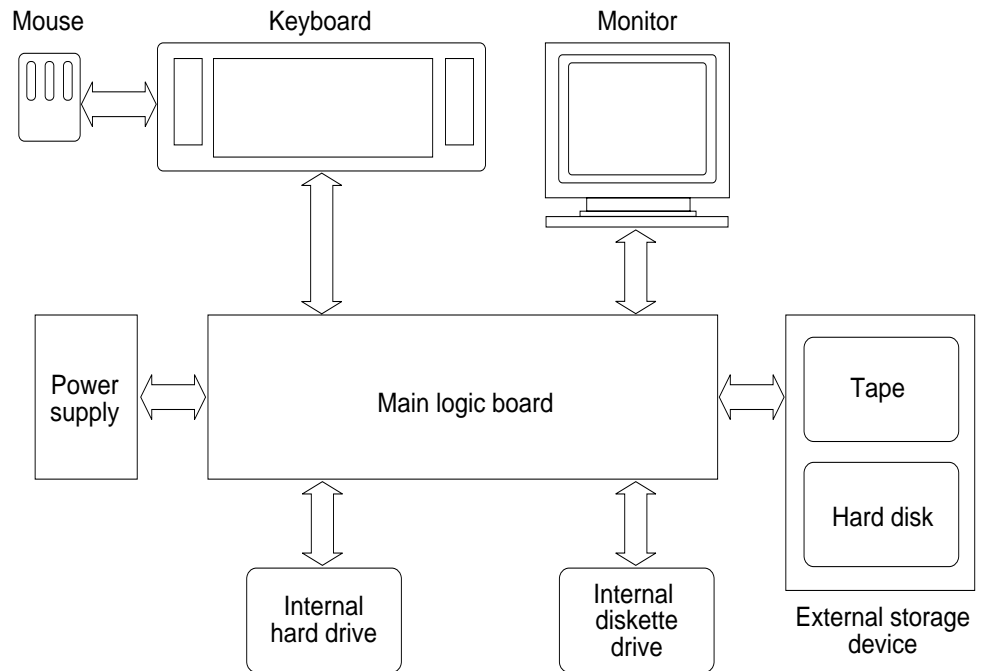
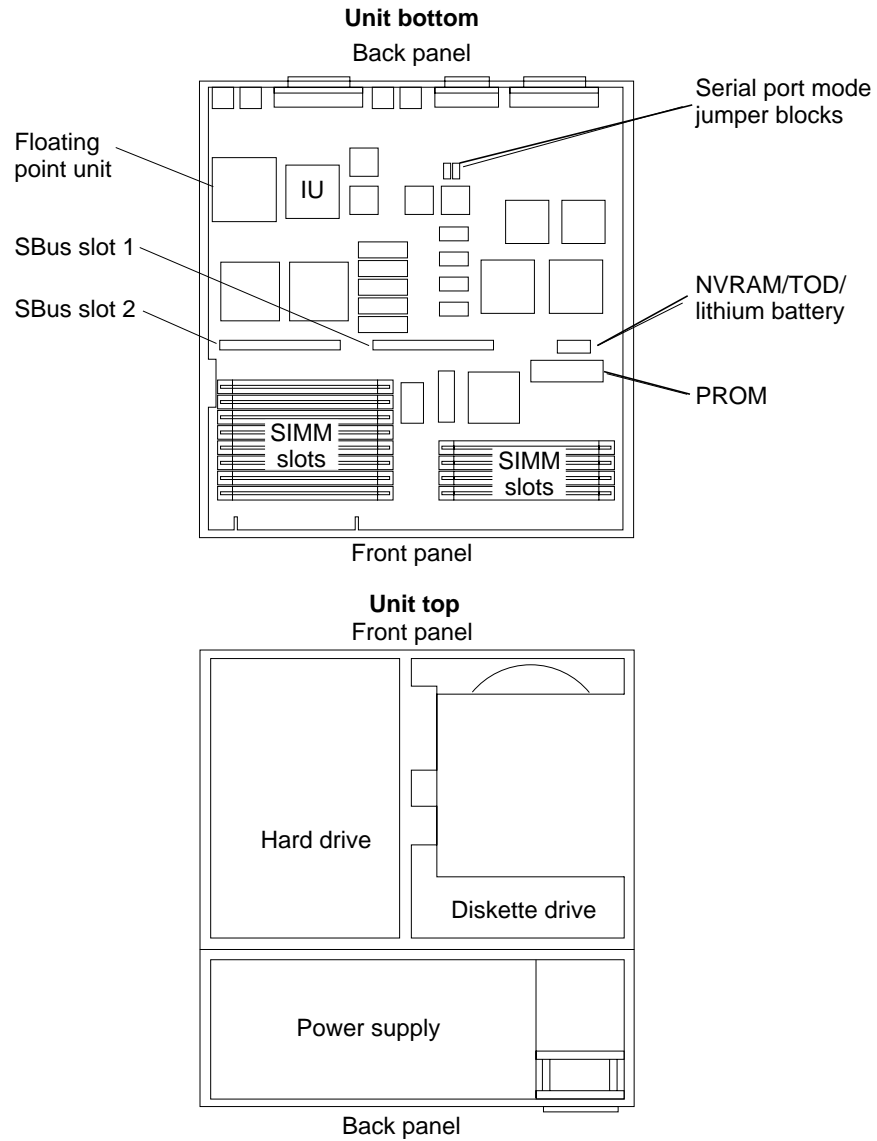
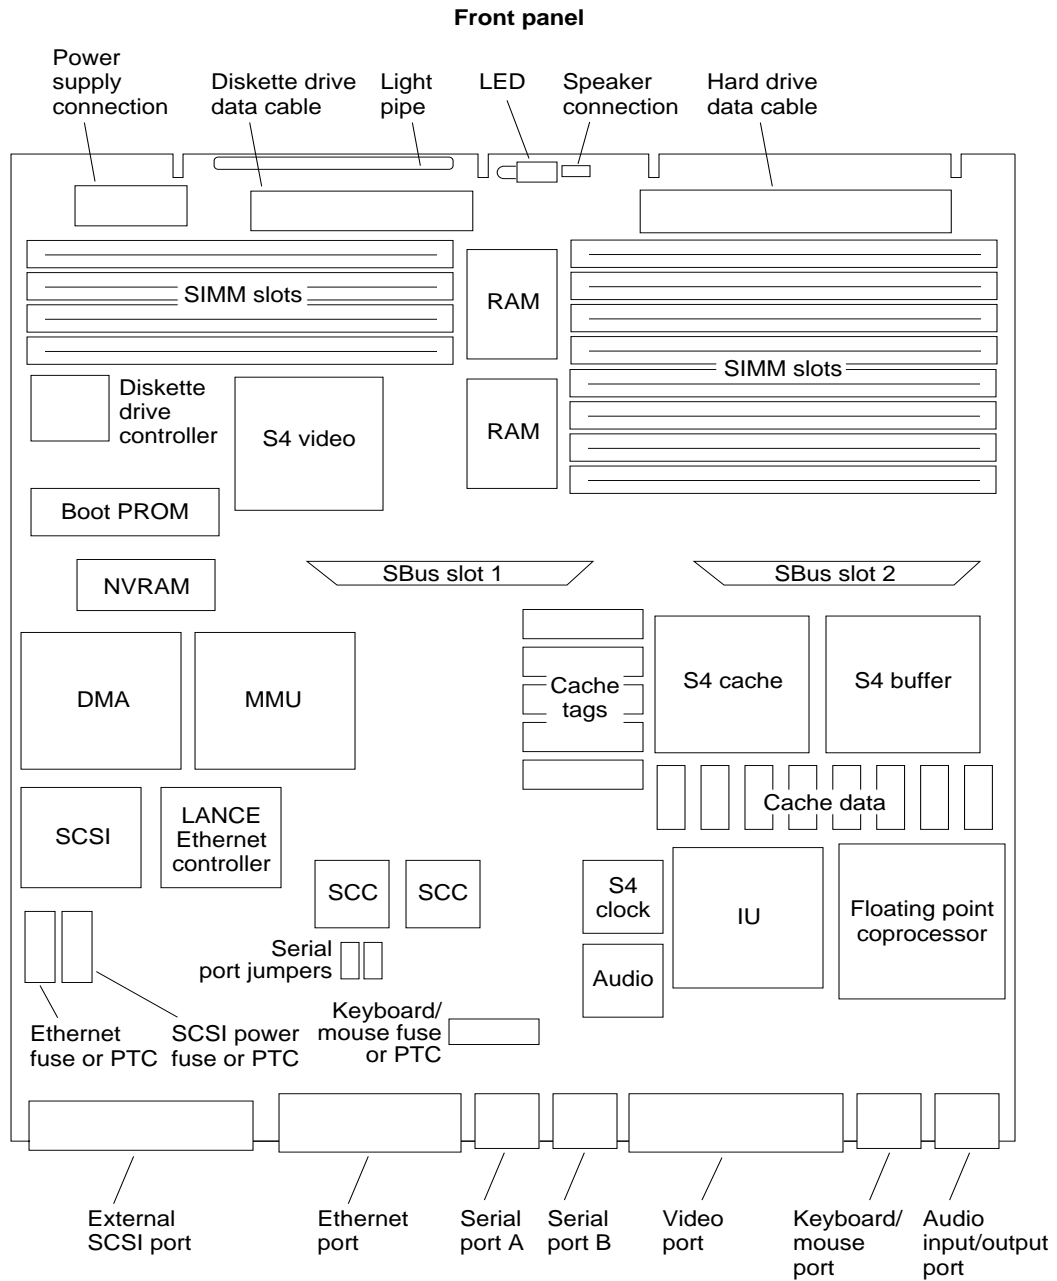
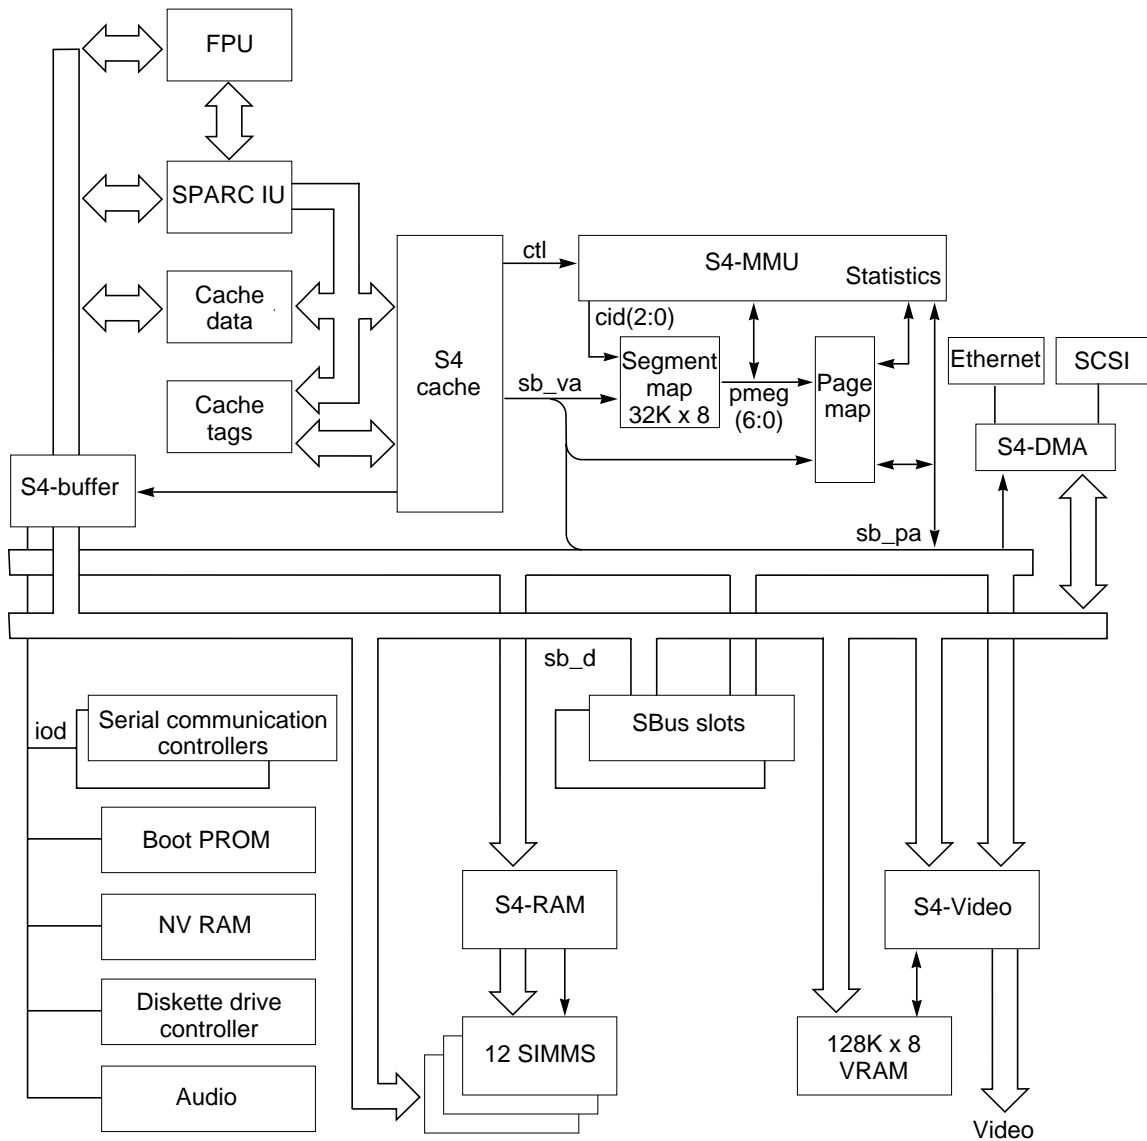

Figure 1-1 SPARCstation IPC With External Storage Device Block Diagram
Figure 1-2 Open View of the System
Figure 1-3 The Workstation's Main Logic Board
Figure 1-4 A Block Level Diagram of the Main Logic Board
Figure 1-1 illustrates the system's configuration with an external storage device. Figure 1-2 presents an open view of the system. Figures 1-3 and 1-4 present the main logic board's layout and a block-level diagram of the main logic board. The balance of the chapter describes the system's components.
Figure 1-1 is a block diagram of one of the workstation's configurations.
Figure 1-3, on the next page, illustrates the main logic board's layout. All chips discussed in "Main Logic Board," which follows, are illustrated in this figure.
The basic core of the main logic board is the SPARC Instruction Unit (IU) (see Figures 1-2, 1-3, and 1-4). The IU's clock speed is 25 MHz. Integer operation is approximately 15 Dhrystone MIPs. The IU is supported with the S4 chip set, including the S4 cache, the S4 memory management unit, the S4 buffer, and the S4 clock.
The floating-point coprocessor (see Figures 1-2, 1-3, and 1-4) delivers approximately 1.75 Mflops double precision Linpack performance.
Cache memory (see Figures 1-3 and 1-4) is high-speed local memory for the IU. The chips comprising cache memory include the following:
The boot PROM (see Figures 1-3 and 1-4) is connected to the I/O data bus. The boot PROM is 128Kx8 for systems with Open Boot PROM Version 1.x or 256Kx8 for systems with Open Boot PROM Version 2.x and contains the boot code and the Forth Toolkit, signified by the `ok` prompt. The Forth Toolkit does not look like other Sun Monitor programs and does not behave like the older Sun PROMs.
The NVRAM chip (see Figures 1-3 and 1-4) contains the time-of-day clock and the non-volatile RAM. The NVRAM chip is connected to the I/O data bus.
Serial ports A and B reside on the main logic board (see Figure 1-3). These serial ports are RS-423 ports, configurable to RS-232, and can connect peripheral equipment such as terminals, printers, and modems by an adapter cable with an 8-pin DIN connector. The serial communications controller chips (Figure 1-4) help to implement the serial ports A and B interface.
A keyboard and mouse port supplied with an 8-pin DIN connector, on the back of the main logic board to the right of the Video port (see Figure 1-3), controls the keyboard and mouse. The serial communications controller chips (Figure 1-4) help to implement the keyboard and mouse interface.
The internal diskette drive is connected to the I/O data bus by the diskette drive controller chip (see Figures 1-3 and 1-4).
The system speaker is connected to the I/O data bus by the audio chip (see Figures 1-3 and 1-4). There is an audio port on the unit back panel. With a split adapter cable (ISDN connector) for microphone and headphone, you can plug the following devices into the audio input/output port:
The S4 memory management unit (MMU) chip, (see Figures 1-3 and 1-4) is connected to the system bus. The MMU maps the virtual addresses used by user programs, SunOS, and input/output devices to physical memory addresses. This is how virtual memory is implemented. Virtual memory allows a user program to have access to an address space that is larger than the physical memory present on the system.
Ethernet is controlled by a Local Area Network Controller for Ethernet (LANCE) controller chip (see Figures 1-3 and 1-4). SCSI disk drive operations are handled through the SCSI controller chip. Both the Ethernet controller and the SCSI controller interface to the SBus through the S4 DMA chip.
- Two S4 RAM chips, illustrated in Figures 1-3 and 1-4
There are two SBus slots on the main logic board (see Figures 1-2 and 1-3). These SBus slots accommodate SBus cards such as a color frame buffer card or a second Ethernet card. The SBus slots are connected to the SBus data bus and the SBus address bus. The SBus is a proprietary 32-bit synchronous bus. See “SBus Cards” later in this chapter for more information on specific SBus boards. “SBus Cards” in Chapter 4 explains how to remove and replace SBus cards.
Ethernet is controlled by a Local Area Network Controller for Ethernet (LANCE) controller chip (see Figures 1-3 and 1-4).
The SCSI hard disk drives and 150 megabyte and 8 mm tape drives are controlled by the SCSI controller chip (see Figures 1-3 and 1-4).
The diskette drive is controlled by the diskette drive controller chip (see Figures 1-3 and 1-4).
The system is shipped with eight 1-megabyte Single Inline Memory Modules (SIMMs). Four megabytes of memory, contained in 1-megabyte SIMMs, can be added (see Figures 1-2, 1-3, 1-4). 4-megabyte SIMMs are also available and can be added in increments of 16 megabytes. If the eight standard 1-megabyte SIMMs are replaced with eight 4-megabyte SIMMs and the remaining four SIMM slots supplied with 4-megabyte SIMMs, the capacity can be increased to 48 megabytes maximum.
Various SBus cards can be added to the system’s two SBus slots on the main logic board. Figures 1-2 and 1-3 illustrate the SBus slots. See “SBus Cards” in Chapter 4 for information on how to remove and replace SBus cards. Examples of the types of SBus cards include the following: